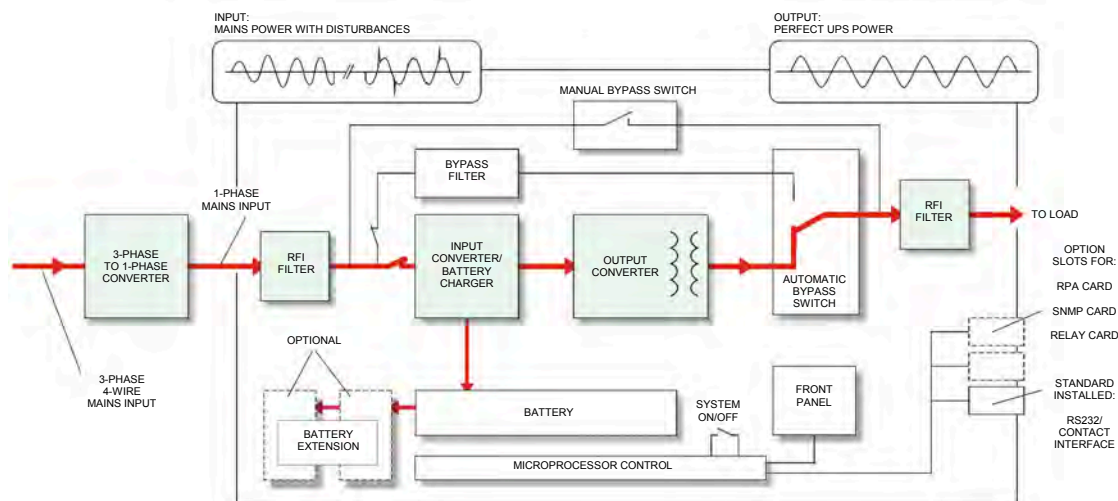

Figure 2. Block diagram of the LP 31T UPS, mains present
Energy is stored as Direct Current (DC), while input and output energy must be Alternating Current (AC). Therefore the UPS contains an input converter (AC to DC) and an output converter (DC to AC). (fig.2)